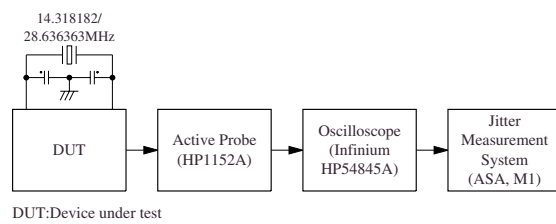

Figure 2. Measurement circuit 2
*2. Measured using the circuit shown in figure 2 on the NPC standard evaluation board.